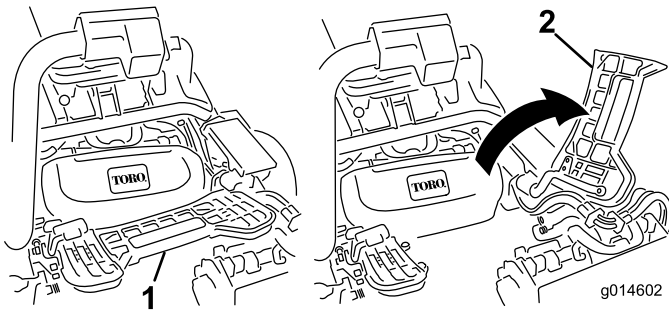

Figure 32
1. Lift up on the foot rest and swing it open, allowing access to the center cutting unit position (Figure 32).